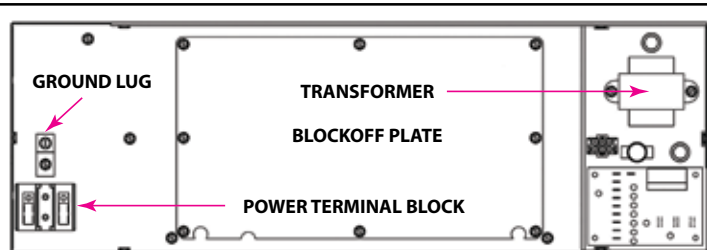

Figure 17: Component Locations – No Heat Control Box
2. Remove the block off plate shown in Figure 17 and discard. Retain the screws, they will be used to secure the electric heater mount plate.
3. Remove the transformer wires and blower motor wires from the power terminal block and remove the power terminal block (See Figure 17).